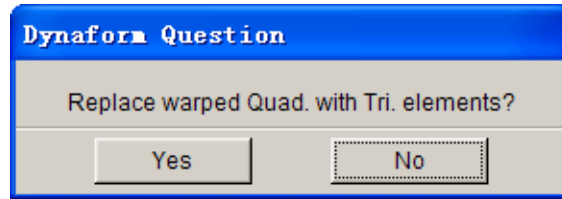

Figure 4.18: Dynaform Question dialog box
3. Select “OK” to check, all the failed elements will be highlighted, and a new dialogue window is popped up to ask if replace the failed quadrilateral elements with the triangular elements. See figure 4.18.